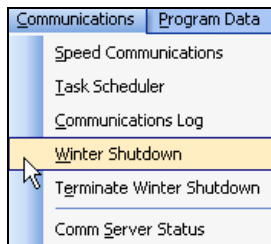

Figure 14.0.1
1. From the toolbar at the top of the screen select **Communications** then scroll down to **Winter Shutdown** and click on it (Figure 14.0.1).